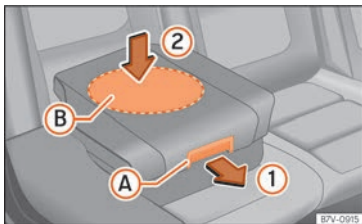

Fig. 36 Integrated child seat: lowering the cushion.
- Pull the unlock lever »» Fig. 36 (A) on the cushion in the direction of the arrow (1).
- Push the cushion down through the central area (B) in the direction of the arrow (2) until it safely engages »» (1). The side supports fold away automatically.
When lowering the integrated child seat, only press on the centre of the cushion »» Fig. 36 (2). Otherwise the cushion could bend and not engage properly.